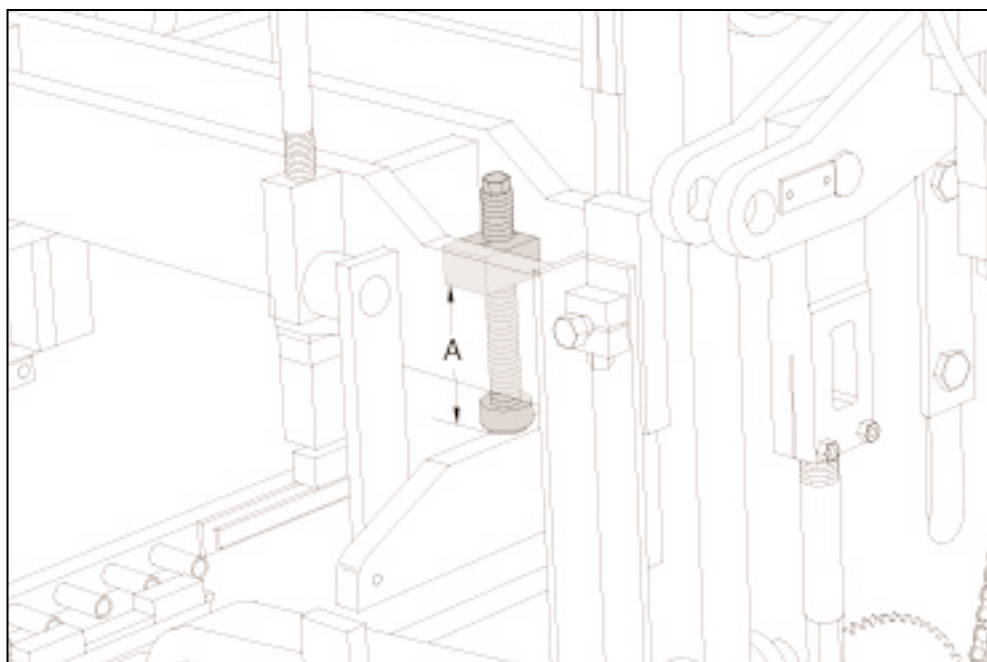

Figure 4.31 SHOCK ABSORBERS ADJUSTMENT.
4.2.8 Adjust the shock absorbers to a dimension **7 7/16" [189mm]** (represented by "A" in figure 4.31) from the bottom of the clamp blocks to the bottom of the rubber pads.